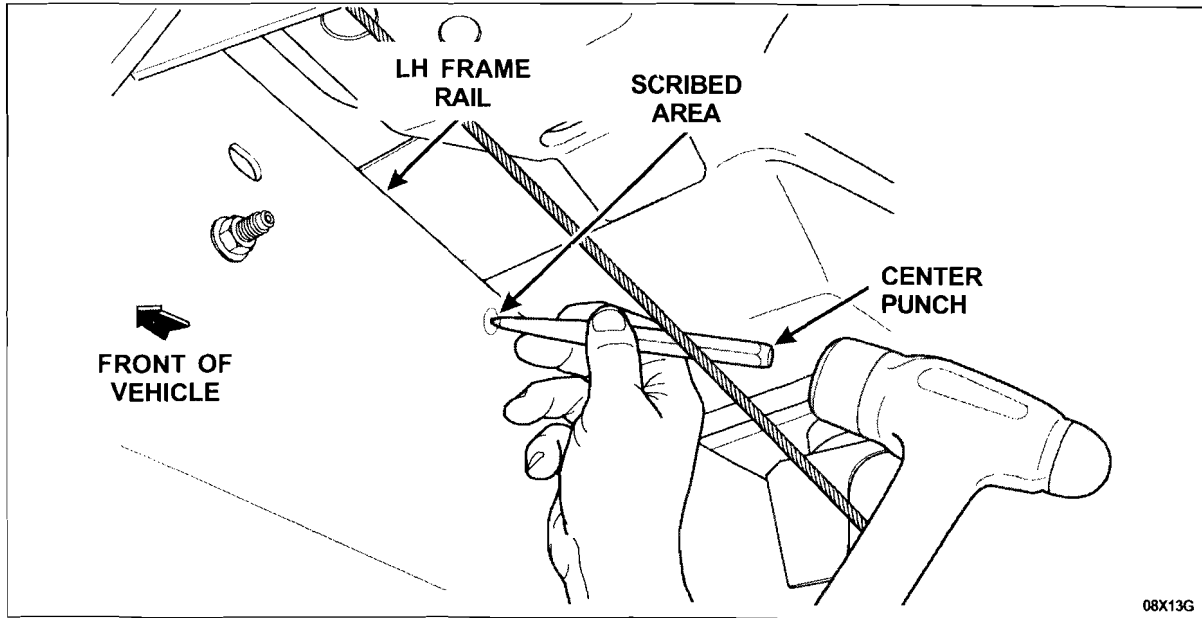

FIGURE 7
9. Position a center punch or equivalent and center a dimple into the frame rail in both of the scribed areas in preparation for the frame rail drilling. See Figure 7.